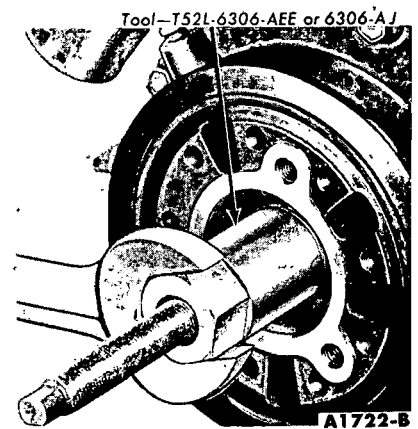

FIG. 43—Crankshaft Vibration Damper Installation
8. Line up the crankshaft vibration damper keyway with the key on the crankshaft. Install the vibration damper on the crankshaft (Fig. 43). Install the cap screw and washer. Torque the screw to specifications. Install the crankshaft pulley.